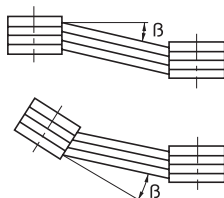

Fig. 7
- Make the parallelism and eccentricity (b) between two pulleys 20' or smaller (Refer to Fig. 7.)